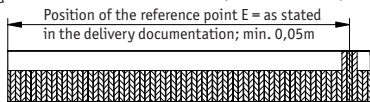

Fig. 6: Definition of the counting direction with magnetic strip and assemblage sensor/magnetic ring, gap measure, tolerances
- **Observe the correct alignment with regard to the counting direction (fig. 6 and 7).** This does not apply if the counting direction can be reversed in the electronic interpretation (e.g. in SIKO's magnetic-strip displays).